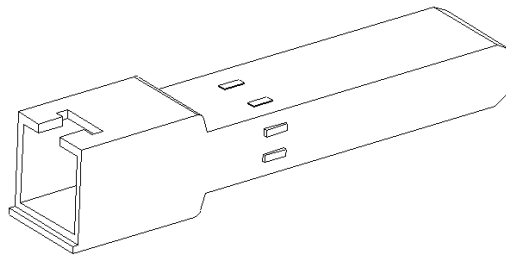

Figure 16 Gigabit SFP Electrical Module
- Figure 16 shows an example of a Gigabit SFP electrical module;